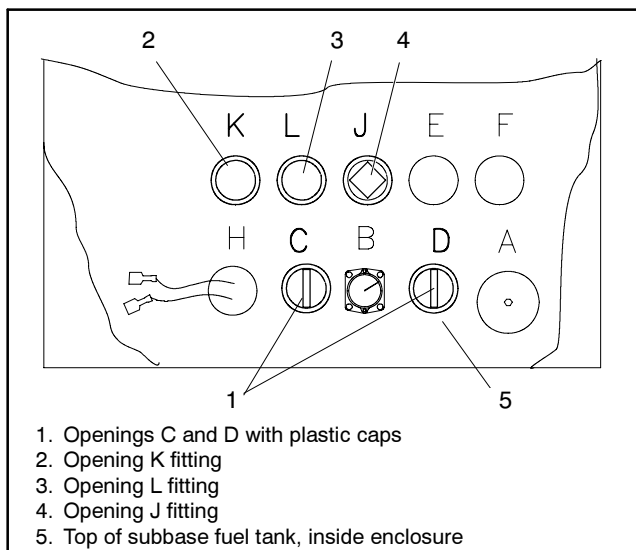
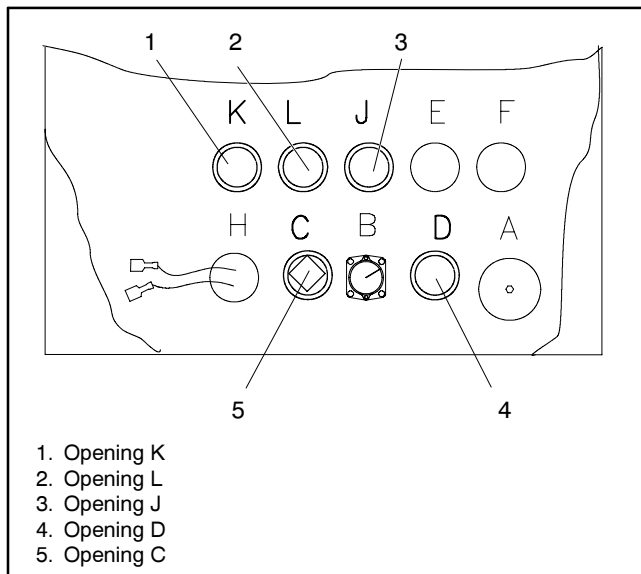
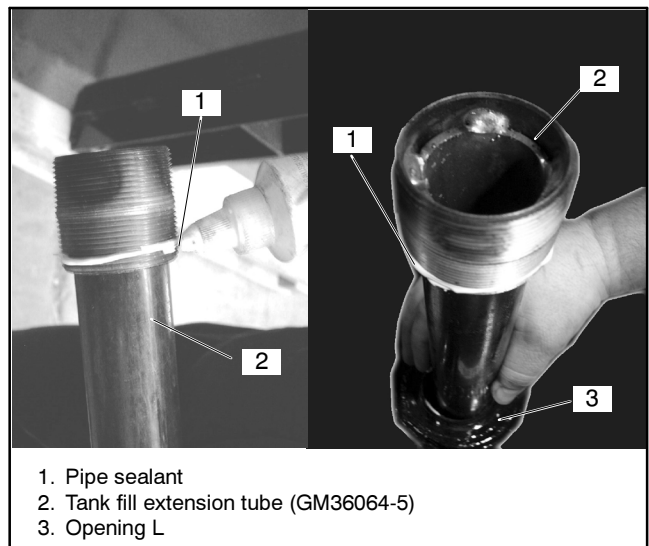

Figure 2 Fittings A thru F with Plastic Caps
Figure 3 Fittings A thru F without Plastic Caps
Figure 5 Overspill Vent Pipe Installation
- 1.2.4 Locate fittings A thru F inside enclosure located on top of the subbase fuel tank. See Figure 2.
- 1.2.5 Remove and discard plastic caps from openings C and D. See Figure 2.
- 1.2.6 Move 2 in. NPT pipe plug from opening J to opening C. See Figure 2 and Figure 3.
- 1.2.7 Move fitting from opening L to opening J. See Figure 3.
- 2.1.1 Apply pipe sealant to bottom threads on tank fill extension tube GM36064-5. See Figure 5.
- 2.1.2 Insert tank fill extension tube GM36064-5 into opening L. Tighten securely. See Figure 3 and Figure 5.
2.2.1 Locate opening K, inside enclosure located on top of the subbase fuel tank. See Figure 3.